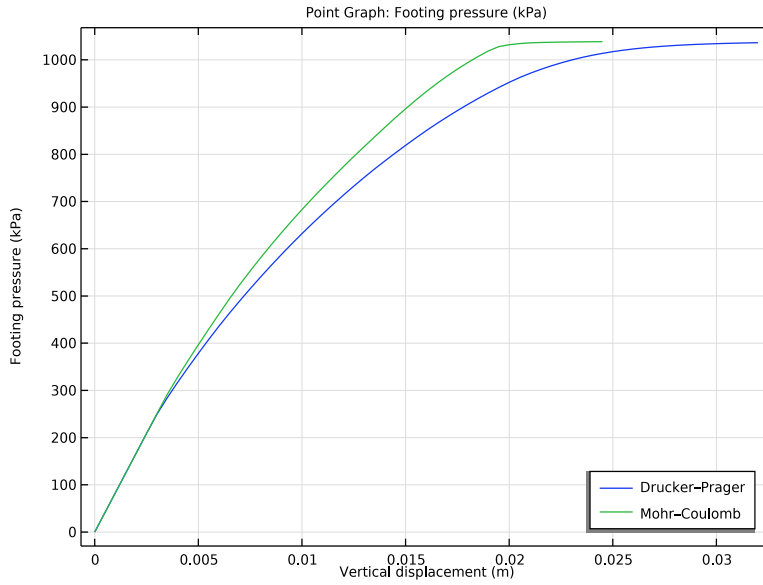
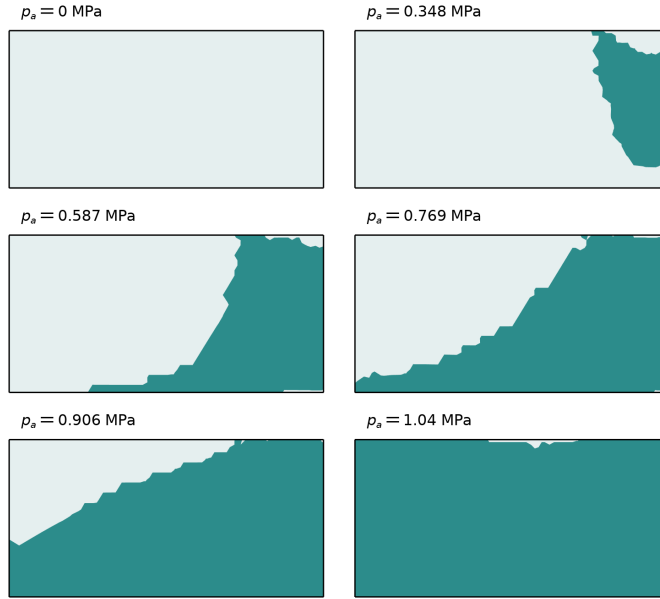

Figure 2: Footing pressure versus vertical displacement for the Mohr–Coulomb and Drucker–Prager material models.
Figure 3: Evolution of the equivalent plastic strain on the clay layer during the parametric loading. Dark regions indicate the plastic region.
- The stratum is subjected to a footing that is considered to be flexible and smooth. The width of the strip footing is 3.14 m, see Figure 2. Gradually increase the footing pressure until the clay layer reaches the collapse load.
The load-displacement curves for both the Mohr–Coulomb and the Drucker–Prager criteria are plotted in Figure 2. The relation between the applied footing pressure and the centerline displacement (directly beneath the center of the footing) in the y direction are shown. The lines show the load-displacement curves for the Mohr–Coulomb and Drucker–Prager criteria. The curves are identical up to 300 kPa because the whole domain is still within the elastic region. From that point when the pressure increases, the behavior diverges. Both curves reach the collapse load at approximately 1.1 MPa. The development of plastic strains in the soil at different stages of loading is shown in Figure 3.